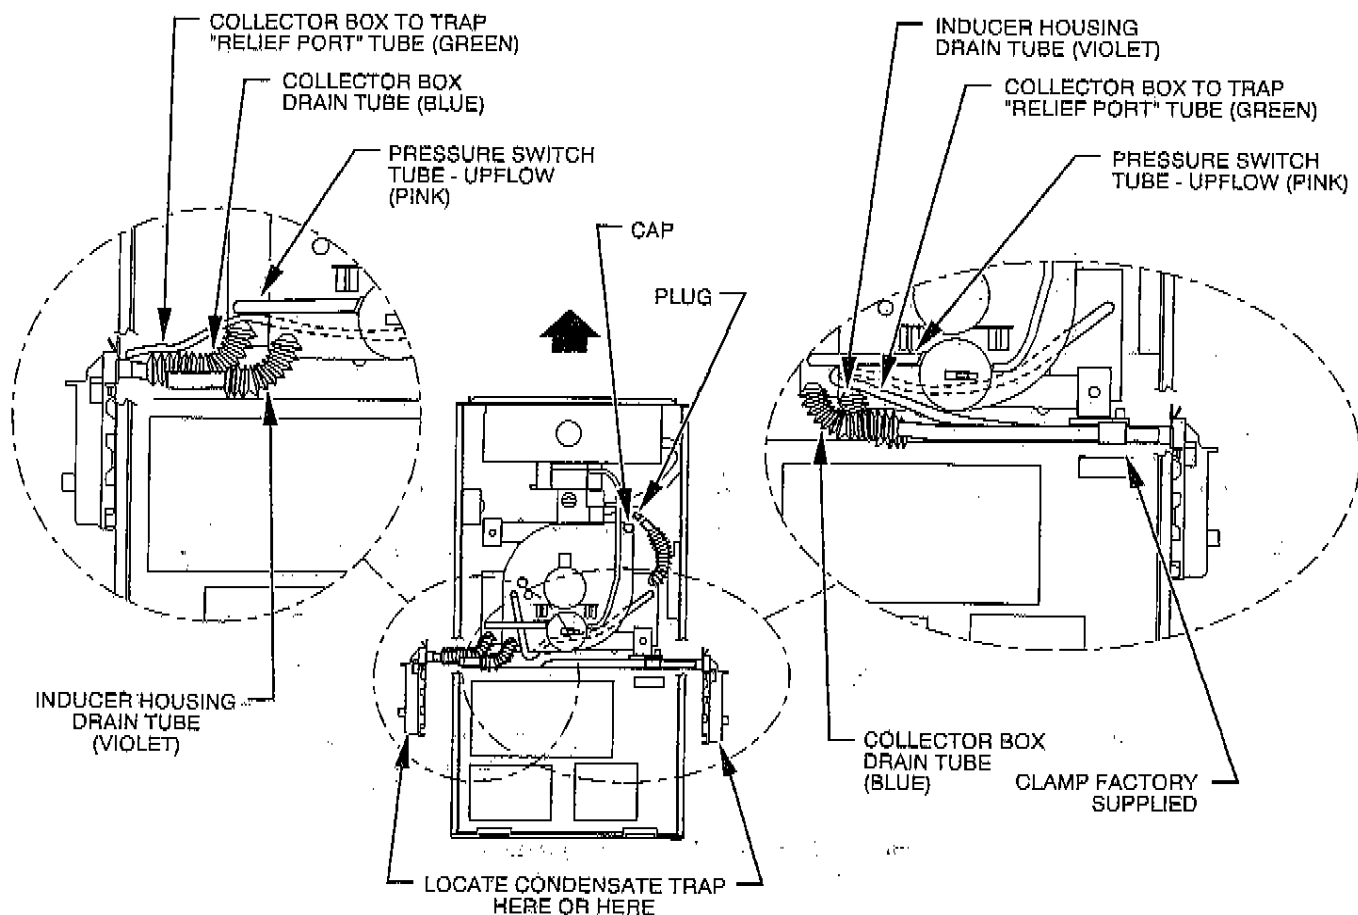

Fig. 6—Upflow Tube Configuration
**NOTE:** When condensate trap is installed on right-hand side, the blue collector box drain tube **MUST** be routed through clamp provided. (See Fig. 6.)
**WARNING:** When condensate trap is installed on right-hand side, route inducer drain and relief port tube behind clamped collector box tube (blue). (See Fig. 6.) Failure to route tube through clamp may interfere with blower access panel door switch operation. Failure to follow this warning could result in electrical shock, personal injury, or death.
The pressure switch tubing is factory assembled for upflow applications and should not require any modifications. See Fig. 6 to check routing of pressure switch tubing connections.